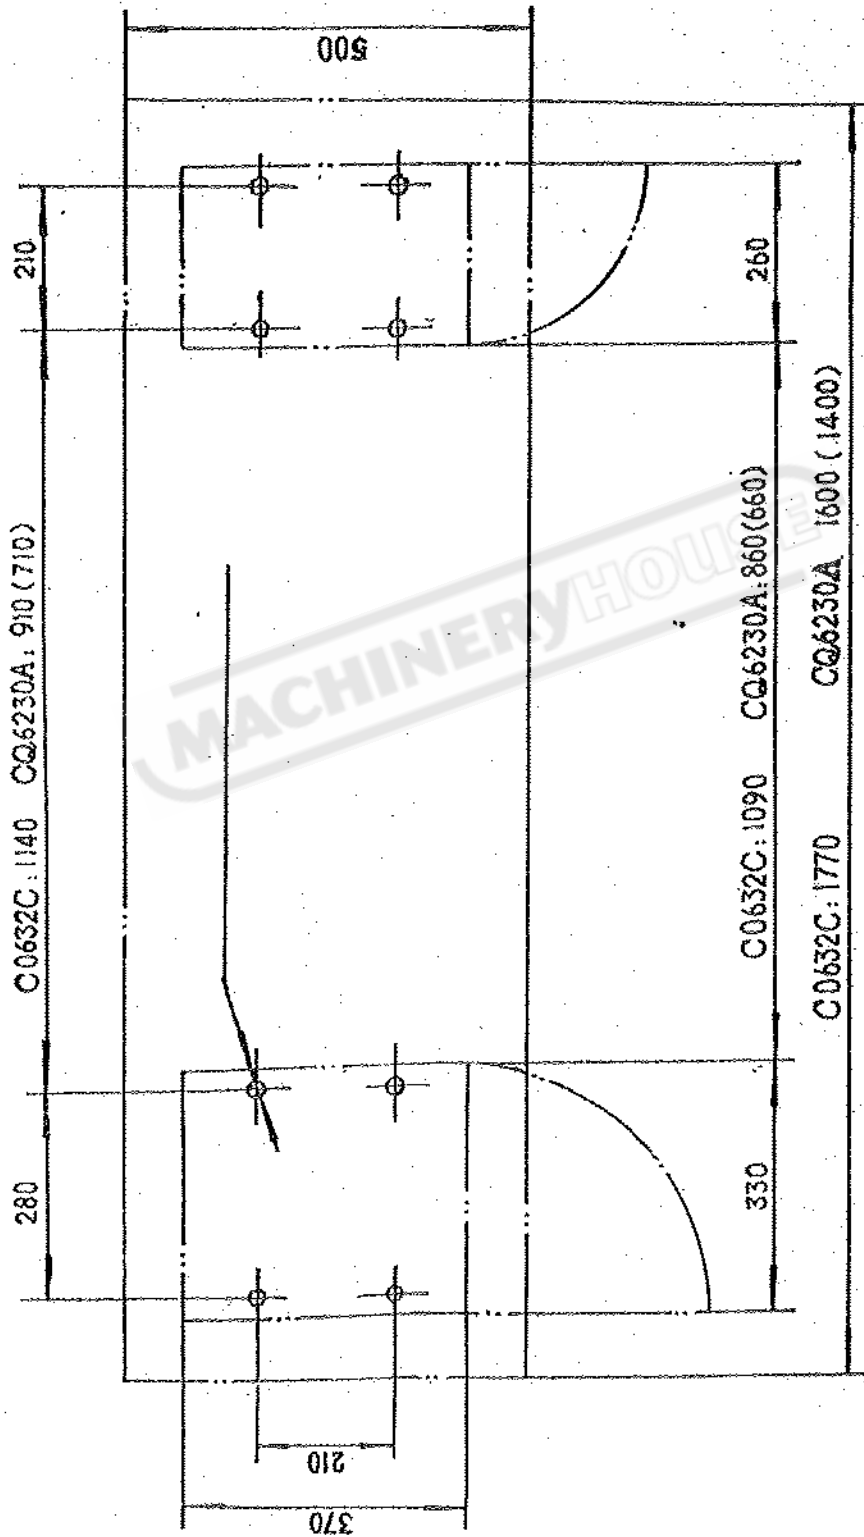

Fig.3 Fixing dimensions for lath stand cabinets
3.4 The fixed dimension of the machine is shown in Fig.3. The lathe stand cabinets should be fixed firmly to the base.